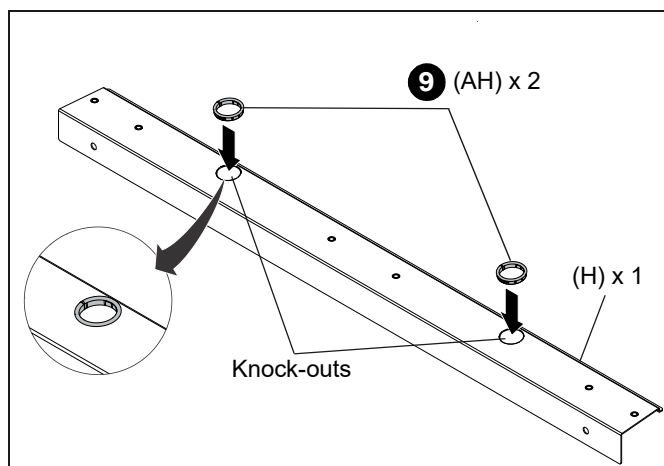

Figure 17
9. **CONFIGURATION 1 ONLY:** Remove the knock-out panels from both vertical covers (B) and install a grommet (AH) into the opening. (See Figure 17)